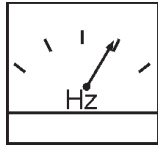

Figure 42. Frequency Meter
6. The generator's frequency meter (Figure 42) should be displaying the 50 cycle output frequency in **HERTZ**.